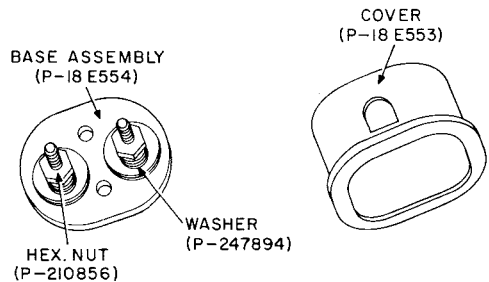

Fig. 1—101B2 Wire Terminal
2.01 The 101B2 wire terminal is illustrated in Fig. 1. The numbers shown are the piece part numbers that can be used for requisitioning parts for replacement purposes.